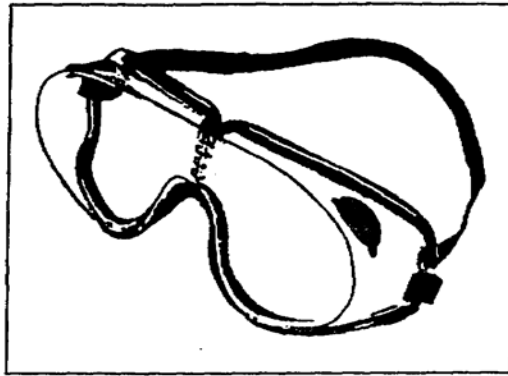

Figure 1-4. Safety goggles
(3) Eye protection. Protect eyes by wearing safety goggles (Figure 1-4, page 1-6) in areas where there is any possibility of dust, fumes, or solvents touching the eyes as may occur when blasting, sanding, or spraying. Keep eye-protection items clean and readily available. They should fit well, contain lenses of unbreakable glass or plastic, and allow adequate peripheral as well as straight-ahead vision.